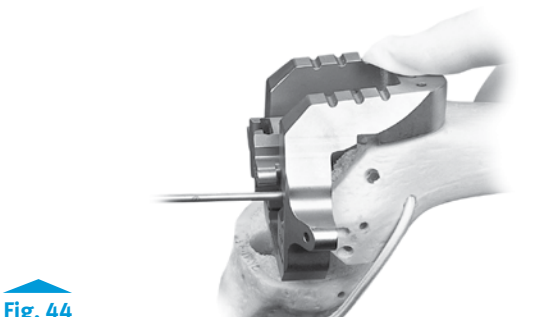

Fig. 44
- Insert the entire assembly into the femoral canal over the headless pins (Fig. 44).